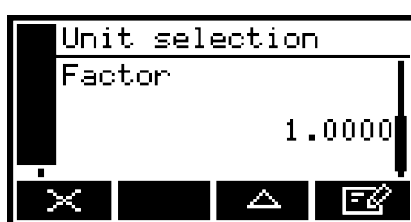

Figure 25: The Units conversion factor screen
6. With the Currently selected units screen (Figure 23) shown, press the  soft key. The Units conversion factor screen will then be displayed, as shown in Figure 25.